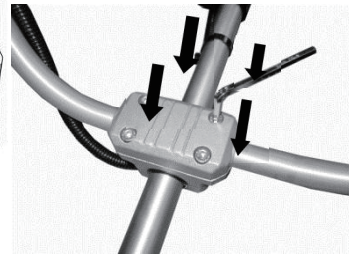

Fig.1-3
- 3) Assemble and tighten the screw.(fig.1-3)